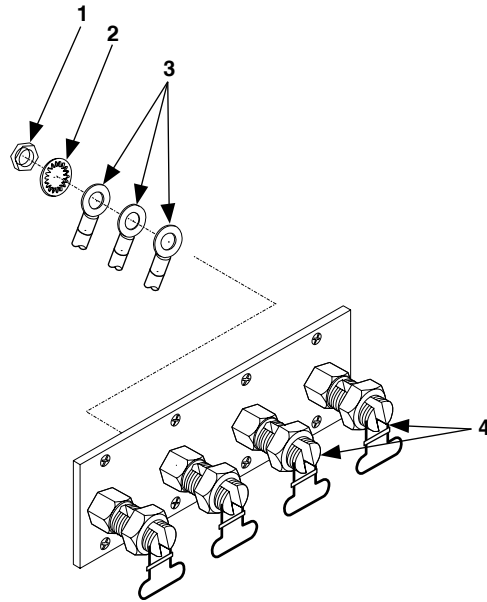

Figure 5-12. Switch Box Load Terminals.
5. Remove nut (1, figure 5-12), internal tooth washer (2), and W9 harness lead (3) from load terminals N and L3 (4).
5. Install W9 harness leads (3, figure 5-12), internal tooth washer (2), and nut (1) on load terminals N and L3 (4).